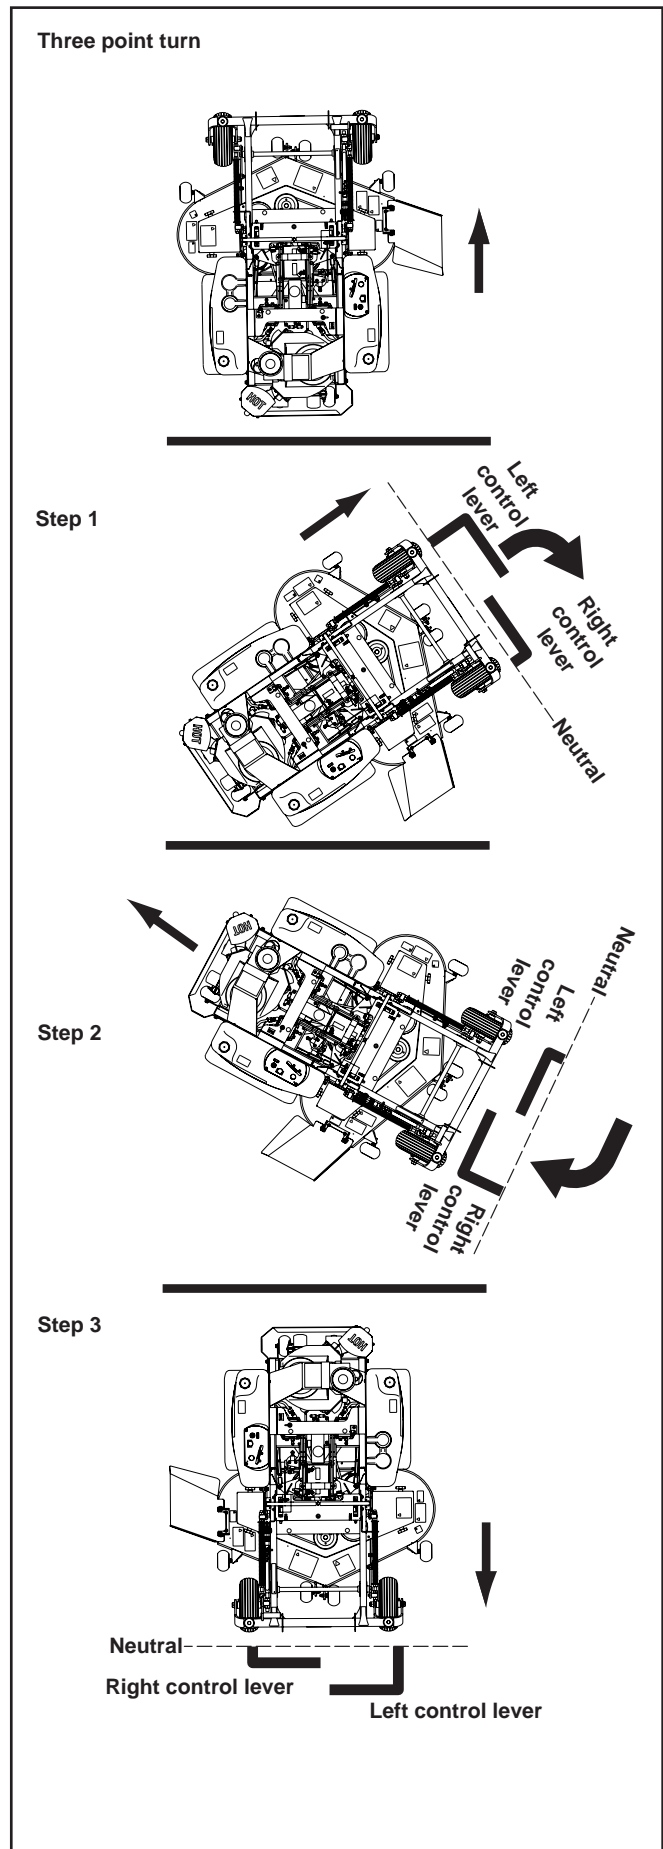

Figure 3-8
**To make a three point turn to the right,** move the left control lever farther forward from neutral than the right control lever and start the turn. Next, pull back on the control levers until they are past neutral and the machine starts to go rearward. Pull right control lever farther rearward from neutral than the left control lever until the rear of the machine has pivoted around. Then, push the control levers forward until they are both past neutral and the machine starts to go forward. Push the left control lever farther forward from neutral than the right control lever and finish the turn. (Fig. 3-8)